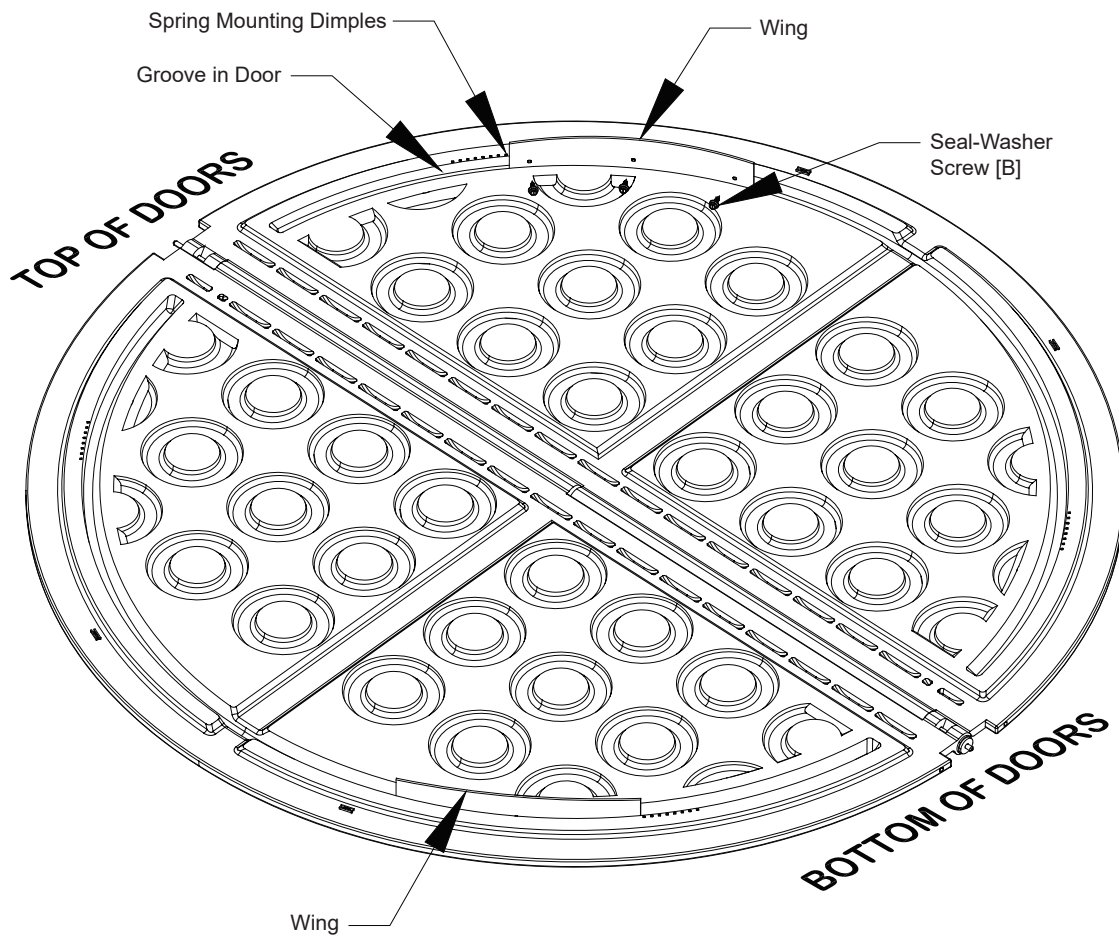

Figure 11
Carefully remove folded door assembly from box. Open doors and lay them flat on solid surface with the Munters Logo down. The Bottom of the doors has the Hinge Pin with the Nylon Washers. The Wing sits down in the Groove of the upper right and lower left doors. The Wing will start just after the last spring mounting dimple and follow the Groove. Make sure Wing is seated in bottom of Groove and fasten in place using (3) Seal-Washer Screws [B] per wing. Make sure Hinge Pins do not fall out. See Figure 11.